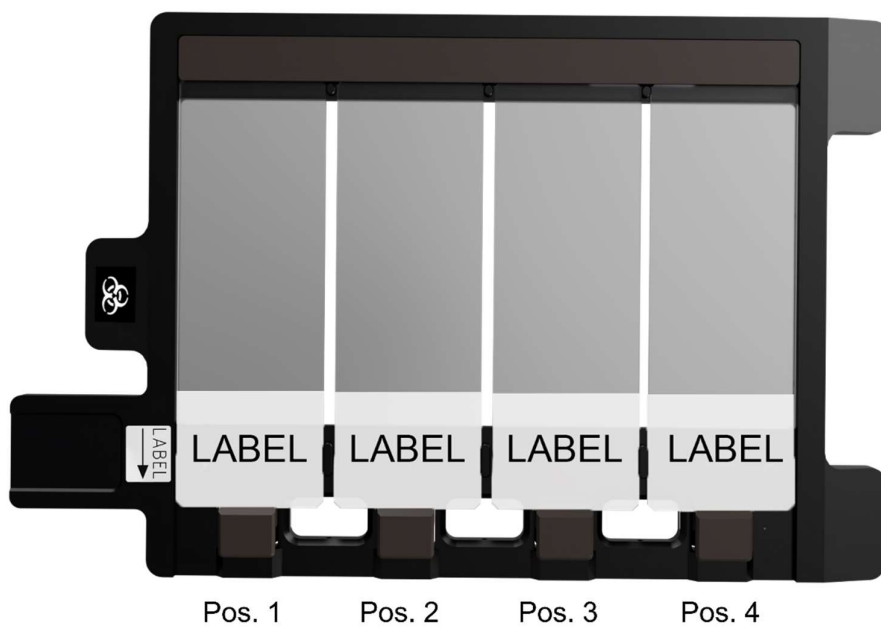

Figure 6-7 The SCIZYS S1 slide holder with four slides.
4. Place the slides into the slide holder. Note that the coverslip shall be facing up. The slide label shall be on the same side as the slide position springs, as shown in Figure 6-7.